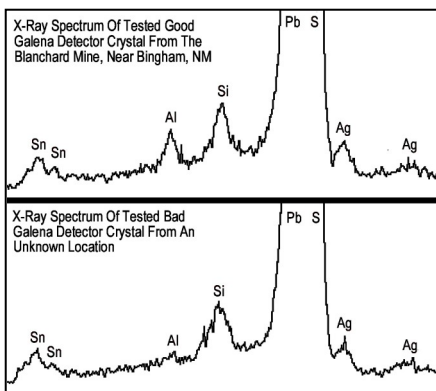

FIGURE 1: Comparison of two galena samples via X-ray fluorescence.
Figure 1 shows the spectral signature of two different galena samples. The plots show emitted X-ray energy on the X-axis, with relative abundance on the Y-axis. Here we have both lead (Pb) and sulfur (S) running off scale as I had the gain turned up to show the trace elements. Note that Pb and S pretty much overlap, although they are distinct at lower gain settings. The two